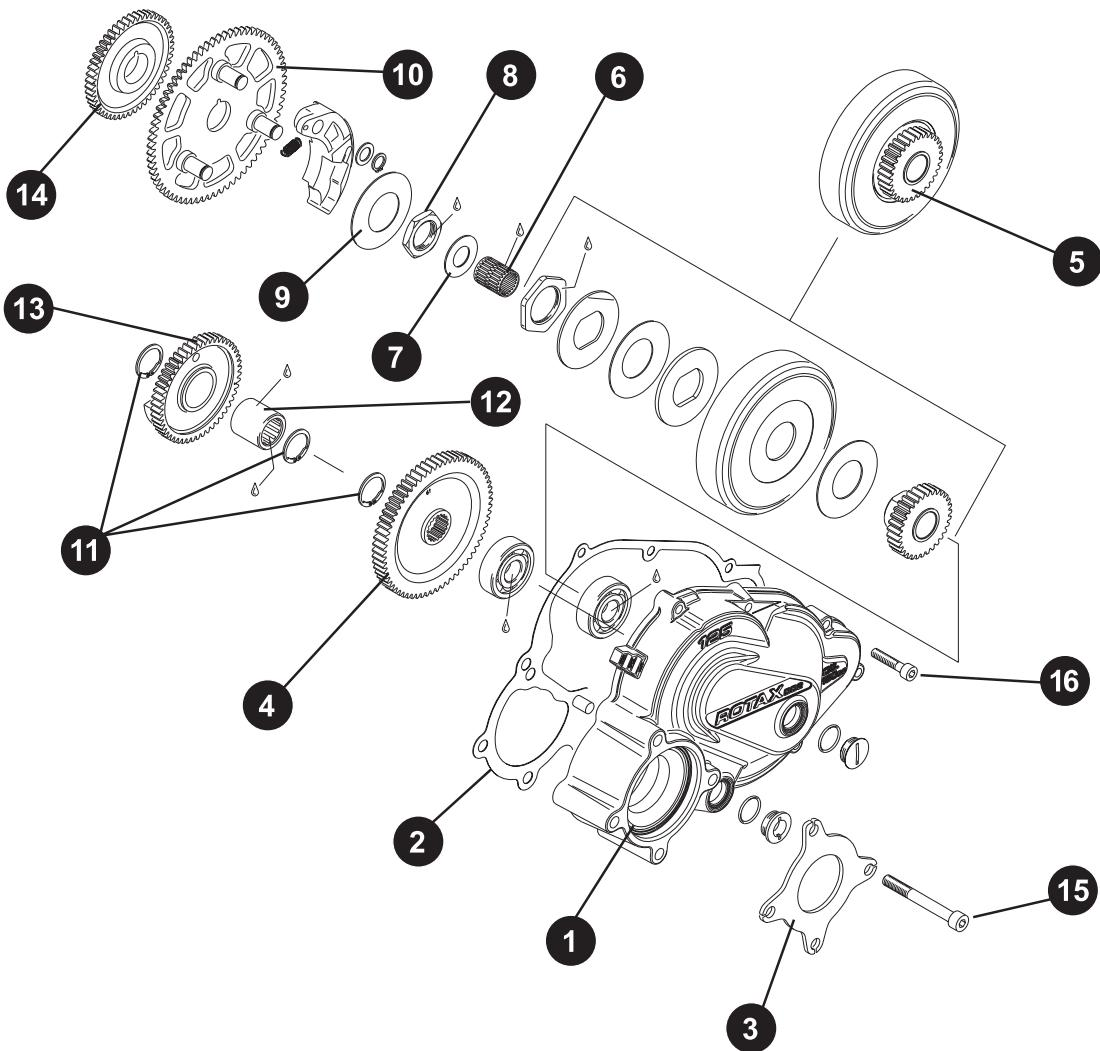
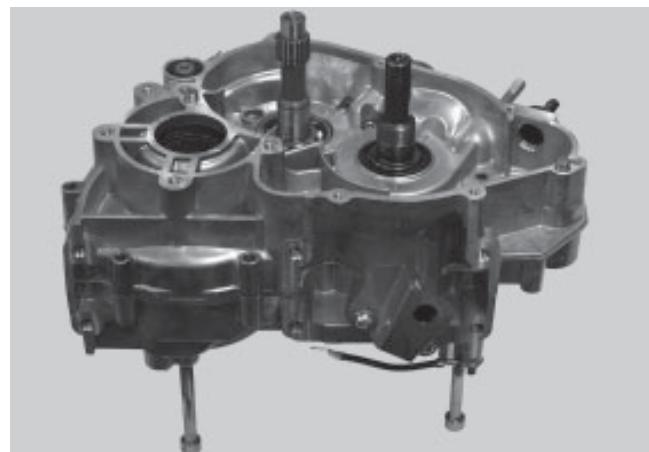

Fig. 26
Fig. 31
◆ **Note:** All item numbers on this page relate to Fig. 26.
- ⇒ Screw in 3 M8 x 70 fixing screws (Item 15, Fig. 26) from the support plate (Item 3, Fig. 26) equally, for use as leveling feet, see Fig. 31.